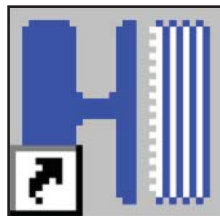

Figure 4 - Hübner software Icon
- 1.9. On the portable computer, click the icon indicated in Figure 4 to access the Hübner software program.